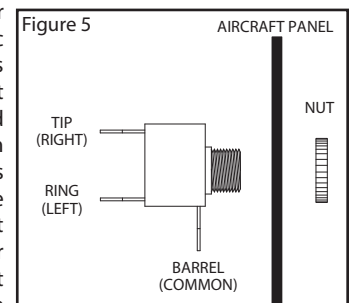
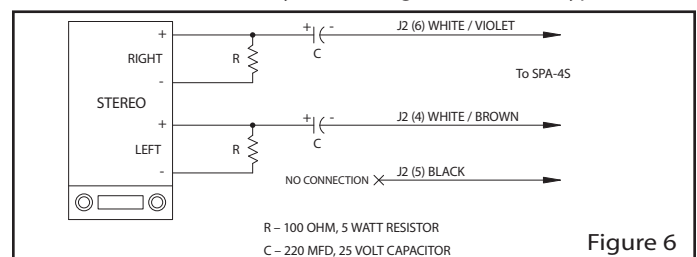

Figure 5
Figure 6
5. The SPA-45 system provides a stereo music input. This music input accepts portable music Headphone or Line level music sources. The wiring diagram shows how to wire the SPA-45 for use with a portable stereo music source. A small stereo input jack is supplied for this purpose. Connect the White/Brown, White/Violet, and Black wires to one jack as shown in Figure 4. Identify the jack terminals using Figure 5. Drill a 1/4-inch hole for the jack and mount on the aircraft panel. To use, connect an adapter cable between the music input jack and the output of the portable stereo. Suitable cables are available at your local Stereo or electronics store as well as from Sigtronics. Speaker level output car stereo music sources can also be used with the SPA-45 system. A Floating Ground Adapter or a four wire to three wire converter will have to be used between the Stereo and the SPA-45 music input. Figure 6 shows such an adapter and how it is wired into the SPA-45.